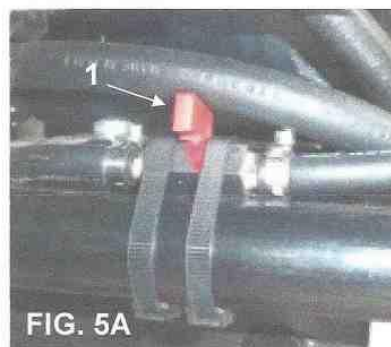

FIG. 5A
- Open the fuel cock (part. 1 fig. 5A, in the photo is in closet position)